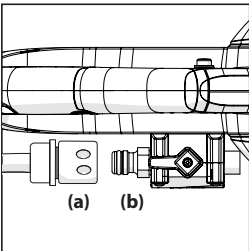

FIG. 6a & b
- Push the hose connector **(Fig. 6a)** on to the Water Valve hose adaptor **(Fig. 6b)** there will be a click and the hose connector will be secured.